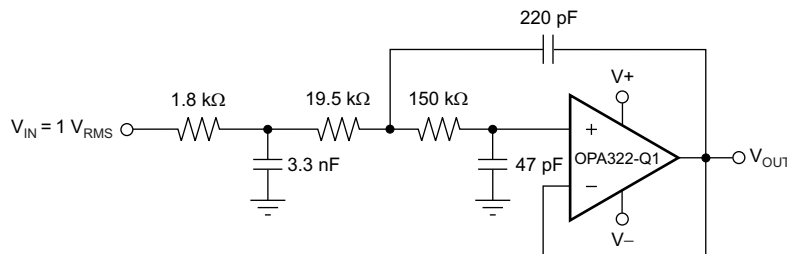

Figure 38. OPA322-Q1 Configured as a Three-Pole, 20-kHz, Sallen-Key Filter
3. Using a noninverting filter topology, such as the Sallen-Key (shown in Figure 38).